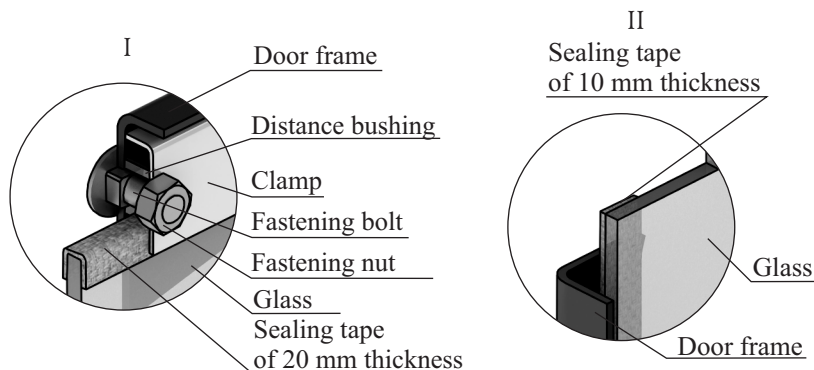

Figure 14. Fastening of translucent screen of the «Vitra» model door
1. Unscrew two nuts fixing the clamp (fig.14.I), and disassemble it and distance bushings.
3. Take new glass and if it doesn't have thread sealing tape stick them: tape of 20 mm in width is stuck from the top and from below the glass, in a «П» shape (fig. 14.I), tape of 10 mm in width is stuck vertically, along the lateral sides of the glass (fig. 14.II).
4. Insert the glass into the stop, at that the tape stuck from the lateral sides (vertical) shall be pressed between the glass and the door frame (fig. 14.II).
*ATTENTION! Nuts fastening the clamp are screwed to the mounting bolts through the remote plugs (Figure 14.I).*